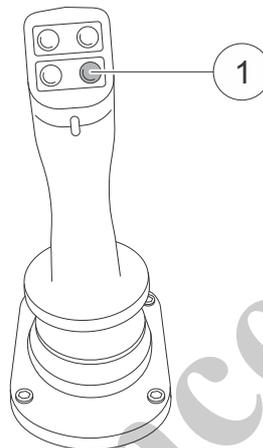

Fig. 265 Horn
- 8 Press the button (1) in Fig. 265 on the right joystick.